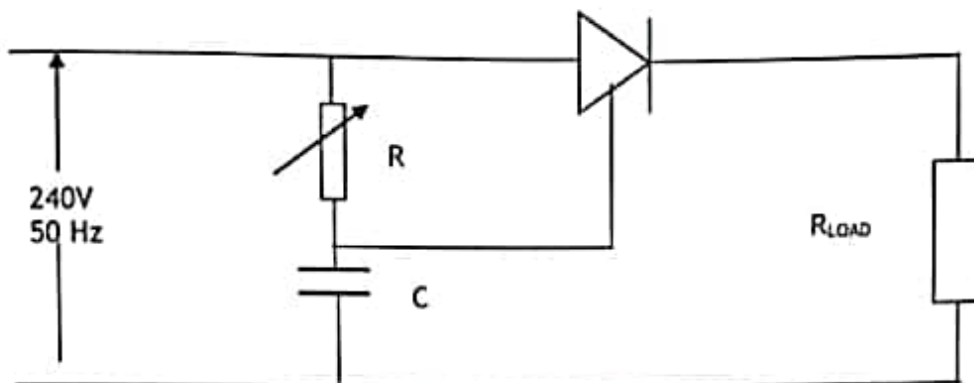

Fig Q9
7. (a) State the *function* of an AVR. (2)
- (b) State FOUR conditions external to a generator that cause its terminal voltage to drop. (4)
- (c) Sketch and label a typical AVR response curve, identifying the application of load, recovery time, maximum acceptable voltage dip, and the permissible steady-state voltage regulation. (6)
- (i) when a generator operates in standalone mode; (2)
- (ii) when a generator operates in parallel. (2)
- (a) sketch a clearly labelled circuit diagram showing the essential features; (8)
- (b) describe the system sketched in Q8(a). (8)
9. (a) State the conditions necessary to *turn on* and *turn off* a thyristor ('SCR'). (4)
- (b) Describe the operation of the circuit shown in Fig Q9. (8)
- (i) 60° ; (2)
- (ii) 120° . (2)